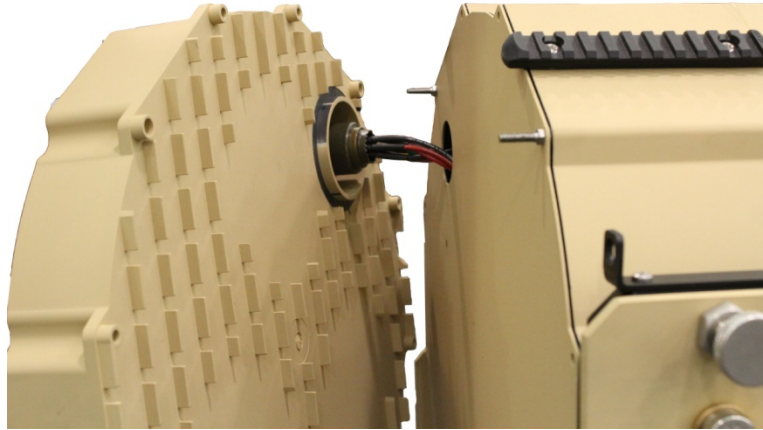

Figure 5.3-2 Rear Panel Connector
4. Disconnect the connector between the rear section and the body as shown in Figure 5.3-2.